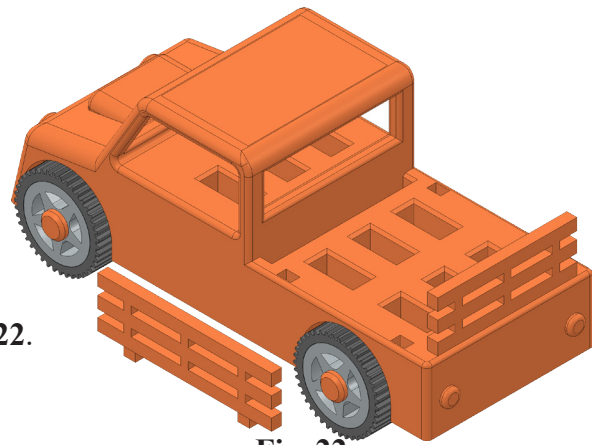

Fig. 22
Step 3. Click to place Side Rail as positioned in **Fig. 22**.